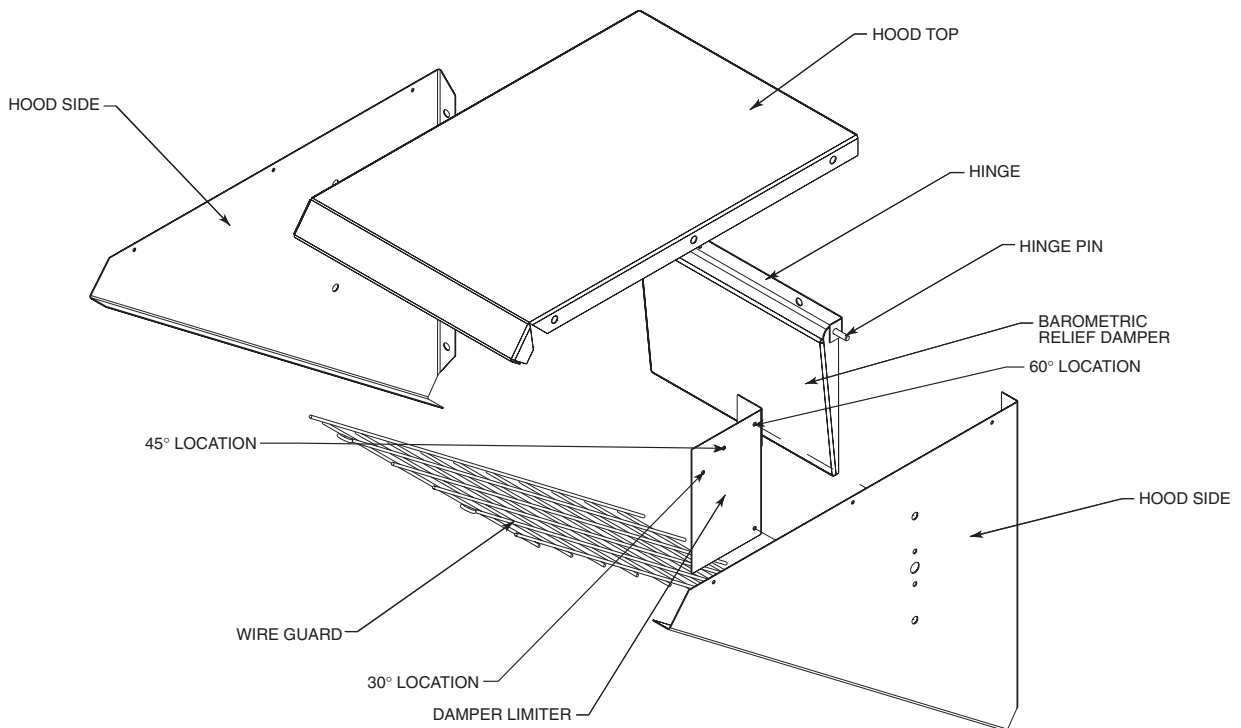

Fig. 12 — Energy Recovery Section Barometric Exhaust Air Hood Assembly
Step 10 — Mount the Barometric Relief Damper — The hood kit supplied with the energy recovery section is needed to complete this installation. The exhaust air hood (that includes the barometric relief damper) must be assembled and installed on the energy recovery section per the instructions below. See Fig. 12.
1. Install the barometric relief damper onto the energy recovery section by mounting the hinge with 2 screws then sliding in the hinge pin. See Fig. 12.
2. Install damper limiter for 30, 45, or 60 degree angles. Limiter pin not required for 90-degree setting (set to the desired position based on CFM requirements and fan speed). See Fig. 12. Fan speed is adjusted by relocating wires on fan terminal blocks.
5. Install wire guard as shown in Fig. 12.